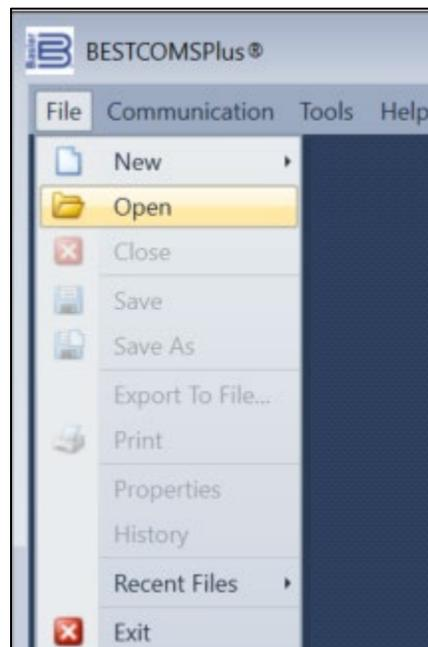

Figure 6-3. Opening a File in BESTCOMSP*lus*
Step 2. Select Open and select the original settings file as shown in Figure 6-3.